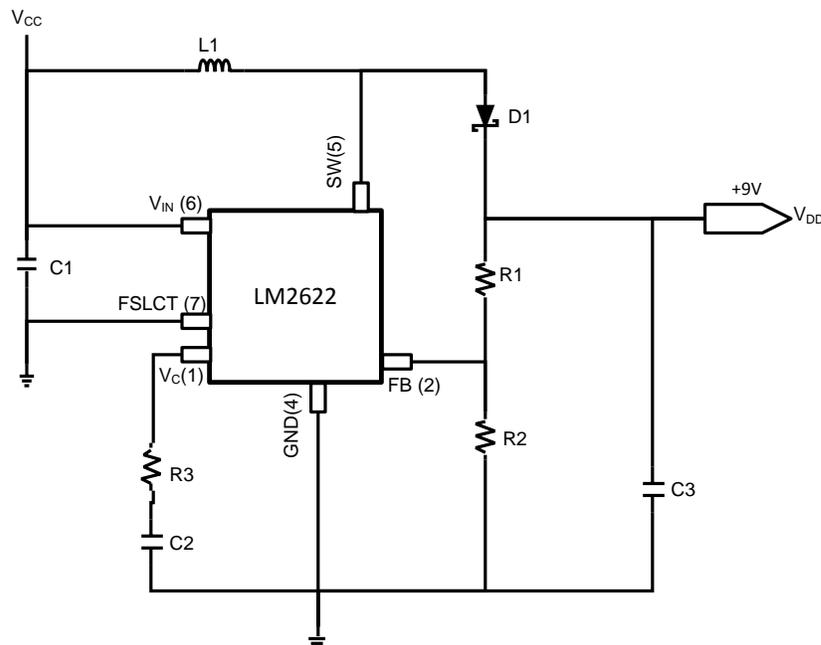
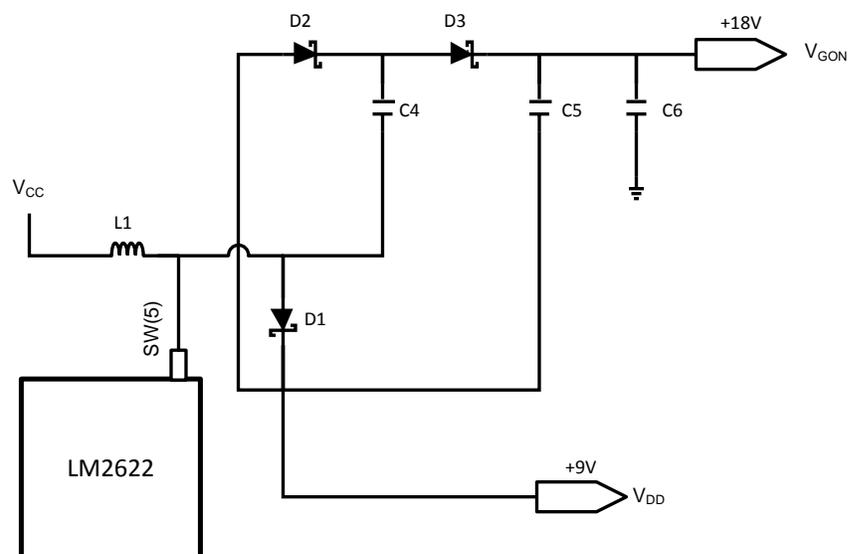

Figure 3. Using the LM2622 to Generate +9.0V DC
Figure 4. Using the LM2622 to Generate +18.0V DC Unregulated
Figure 3 shows an example of how to generate +9.0V using the LM2622. In this configuration, the LM2622 is set to operate at 600kHz (it can also operate at 1.3MHz if the FSLCT pin is tied high). The circuit comprising of L1, D1, C3, and the SW pin of the IC operate as described above in Figure 1 and Figure 2. The analog output voltage is controlled by the resistor-divider of R1 and R2. The voltage on the FB pin is internally fixed at +1.26V, so in order to have a +9.0V output, resistor values of 51kΩ for R1 and 8.3kΩ for R2 can be used. Voltages other than +9.0V can be generated by changing the ratio of R1 and R2.
There are six main recommendations for implementing the circuit shown in Figure 3.
2. All the filter capacitors should be placed as close to the IC as possible. The filter capacitor is shown as C1 in Figure 3. Keeping the filter capacitors close to the IC reduces the affects of the trace inductance. All the board components should be surface mount to save space and lead length.
3. Place the inductor, the diode and the capacitor that bypasses the +9.0V supply as close together as possible. In Figure 3, these are L1, D1, and C3. This will help reduce EMI, noise, ringing, and other unwanted supply effects.
In Figure 4 below, only the components needed to generate the +18V supply are used. The remaining components (as shown in Figure 3) are not shown. The charge pump works in 2 stages. First, when the switch on the LM2622 is closed, C4 charges to approximately +9.0V. When the switch is open, D2 conducts and the voltage across C5 is +9.0V. Because C5 is referenced to +9.0V node, the voltage is +18V (developed across C6) when referenced to ground. The +18V supply is unregulated, but sufficient to provide the "on" voltage for the row drivers. It is also possible to add an additional capacitor charge pump stage to bring the total generated voltage to +27V. In general, this configuration can provide either a 2x or 3x multiple of the column driver analog output voltage as the row driver "on" voltage.